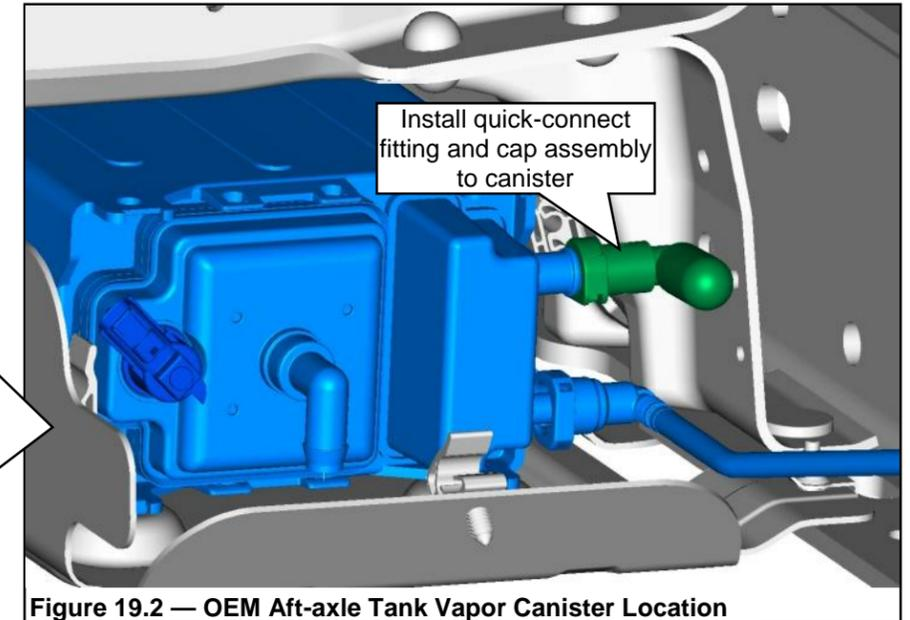

Figure 19.2 — OEM Aft-axle Tank Vapor Canister Location
2. Install assembly onto vapor canister top front port or upper rear port. **Figures 19.2 and 19.3.**